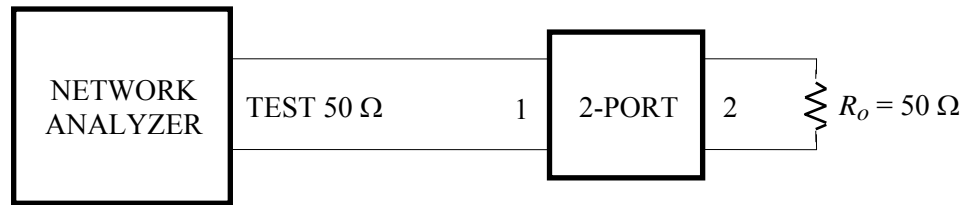

Figure 2. Circuit connection for s_{11} measurement.
- a. Connect port 1 of the circuit you wish to test to the 50- Ω test cable on the network analyzer as shown in Figure 2 below. Put a 50- Ω load (a 51- or 47- Ω resistor) on port 2 of the circuit in order to properly terminate the port for s -parameter measurement. (You could use the B port of the network analyzer to provide the 50- Ω termination, but by providing your own termination the accuracy of the measurement will not be degraded by the characteristics of the cable to the B port.) The 50- Ω impedance of the TEST 50 Ω port of the signal divider provides the proper termination for port 1 of the circuit under test.